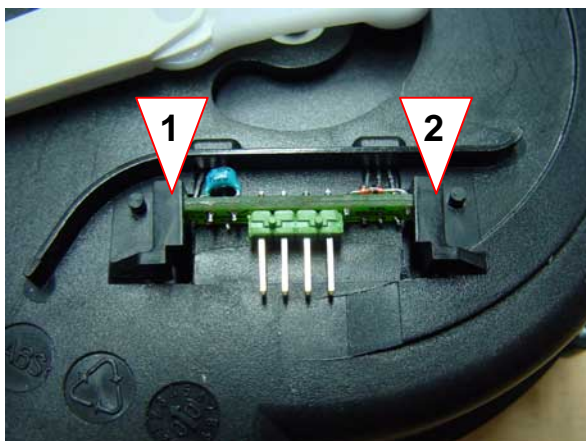

Fig. 3-33 Flap detection board
3. Dismount the flap detection board by carefully disengaging the clips (see Fig. 3-33, 1 and 2).